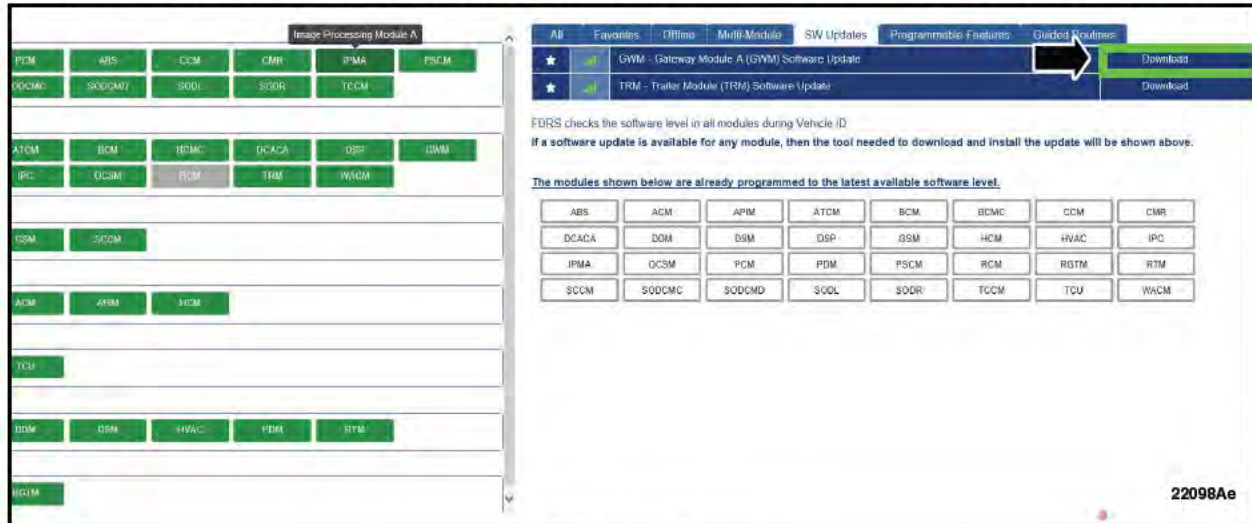

FIGURE 4
8. From the list on the RH side of the screen, download GWM - GWM Software Update. See Figure 4.